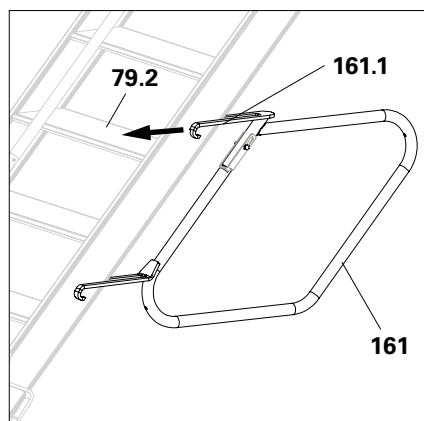

Fig. A8.11a
1. Attach the stair guardrail from the back of the staircase to the stair rail using the mounting rings (**161**). (Fig. A8.11a)